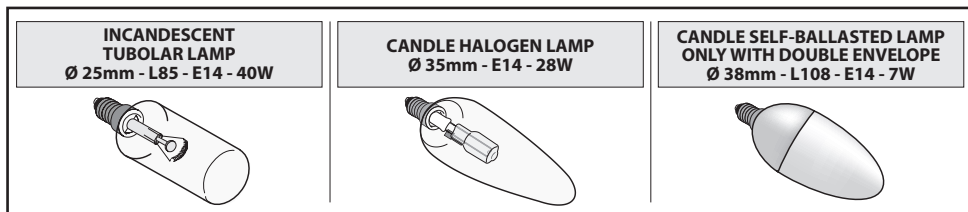

Fig.15
• **Replace incandescent/halogen/fluorescent lamps (Fig.15):**